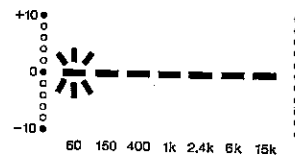

Fig. 13
2. Press the FREQ/MEMO switch to specify a frequency. The blinking indicator shifts each time the switch is pressed (Fig. 13).